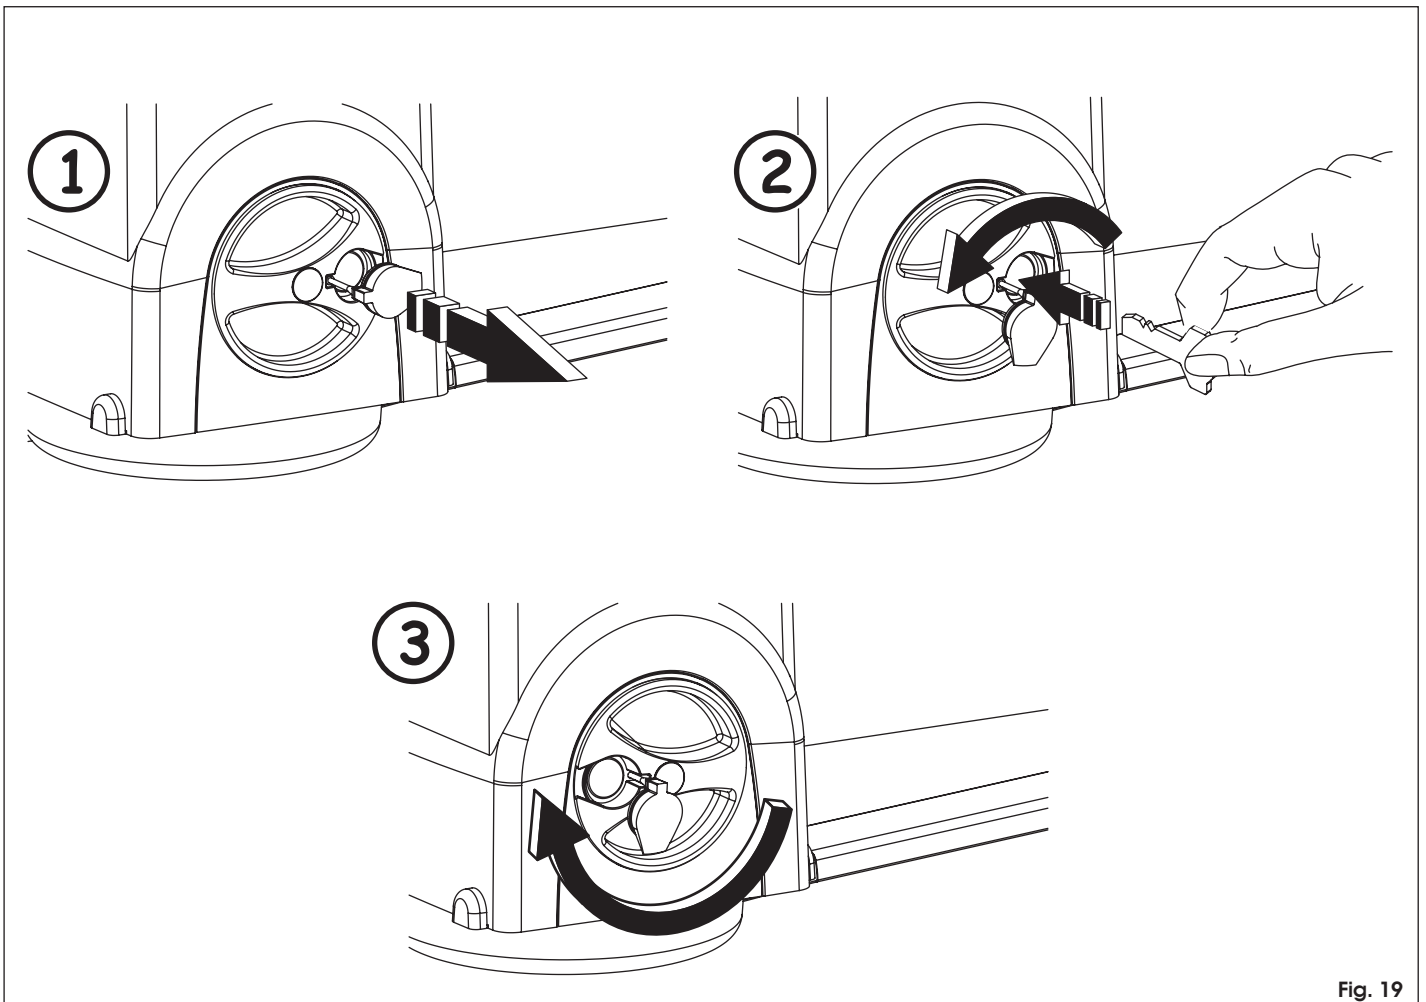

Fig. 19
2. Lift the protective plug from the lock, fig. 19 ref. ①.
3. Fit the key and turn it anti-clockwise until it stops, fig. 19 ref. ②.
4. Turn the release knob clockwise until it stops, fig. 19 ref. ③.